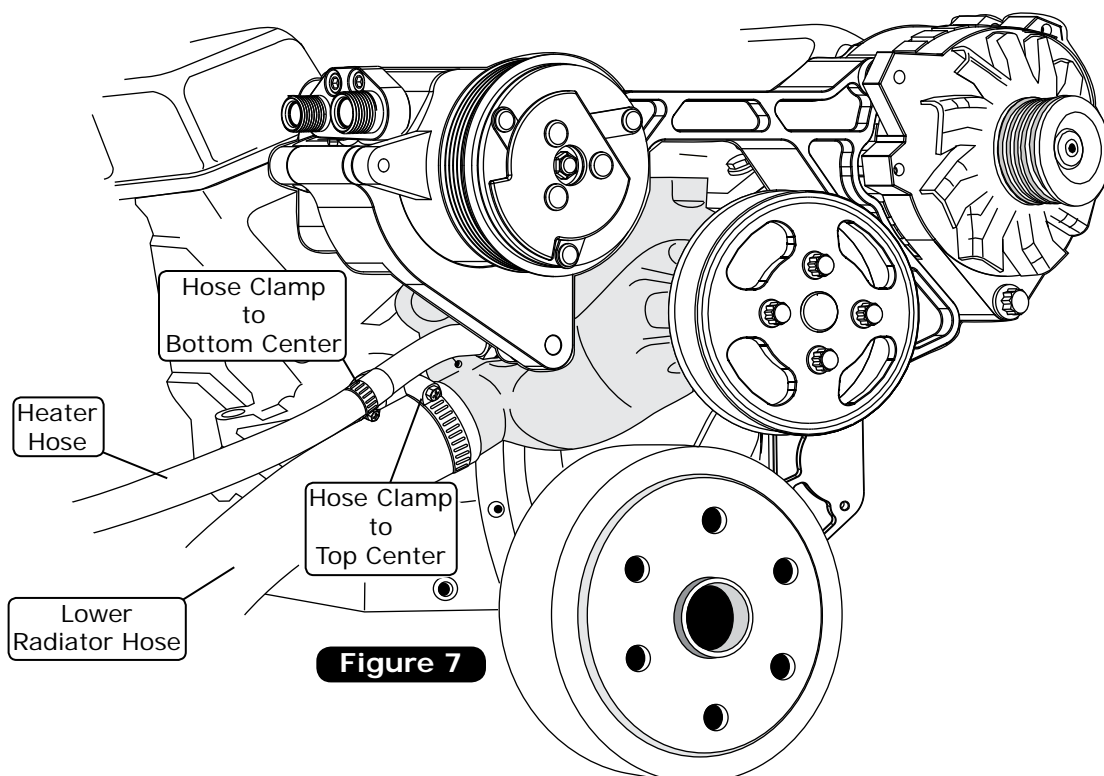

Figure 7
1. Install the heater hose. **NOTE:** Hose clamp location and position should be as shown in Figure 7, below.
2. Install the lower radiator hose. **NOTE:** Hose clamp location and position should be as shown in Figure 7, below.